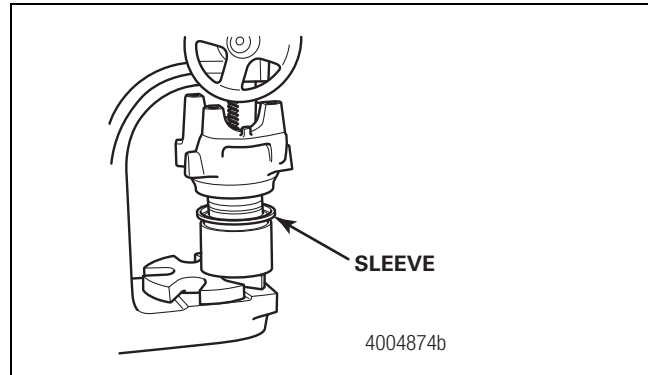

Figure 7
5. Position the sleeve into the yoke sleeve driver. Do not touch the greased areas of the sleeve. The sleeve must be kept clean prior to assembly into the seal. Use an arbor press and sleeve driver, part number 2728T2, to install the sleeve into the yoke. Verify that the sleeve is fully seated in the yoke to prevent damage to components. Figure 7.